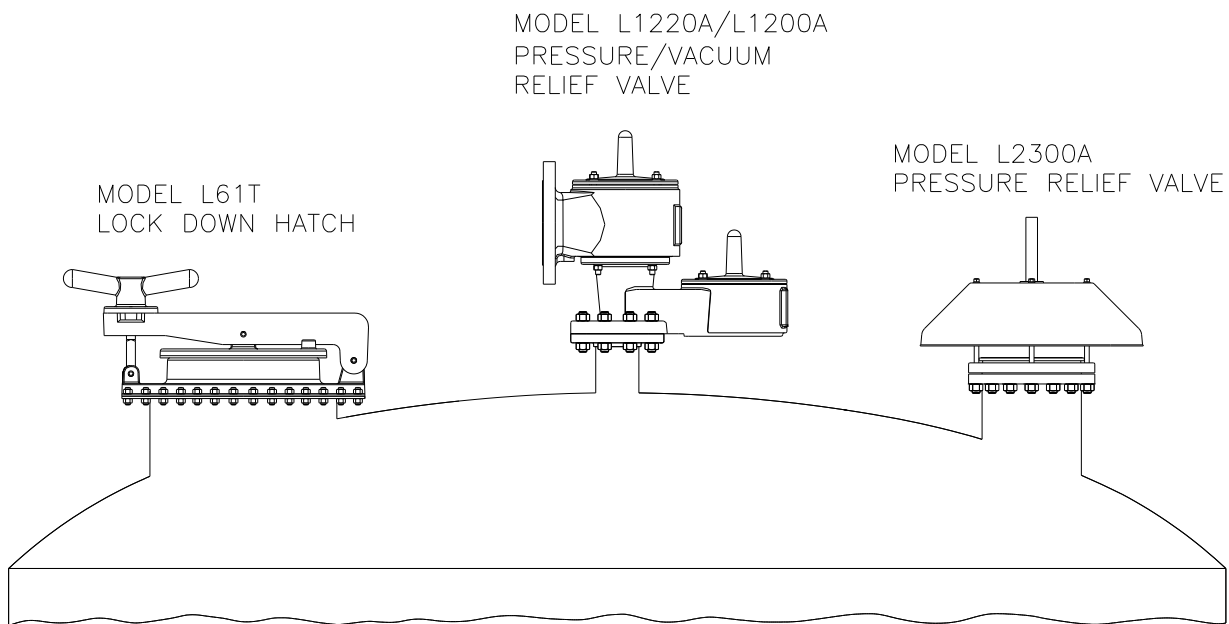

Figure 1: Typical Tank Installation
a. FIGURE 1 - TYPICAL TANK INSTALLATION	3
A typical tank installation is shown in **Figure 1** which includes the following LAMOT products:
A typical Lock Down Hatch installation on a tank or vessel is illustrated in **Figure 1**, Page 3. **WARNING: The Lock Down Hatch must be installed in a vertical position as shown in Figure 1, Page 3.** Torque guidelines are listed in **Table 1**. The hatches are NOT rated for full flange pressure and do not require high bolting torque. Consult factory for special applications.